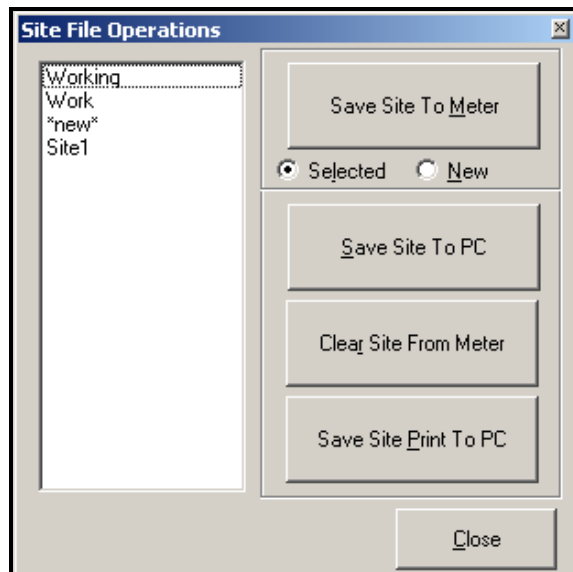

Figure 30: The Site File Operations Window
To access site files, click on the *Site Files* button in the *Properties* window. The *Site File Operations* window (shown in Figure 30 below) opens.
1. Highlight the desired site in the left pane. (See Figure 30 on page 106.)
1. Highlight the site in the left pane. (See Figure 30 on page 106.)